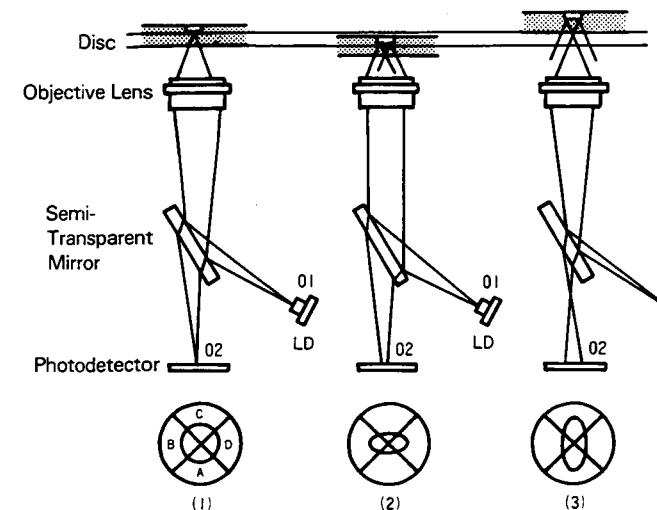
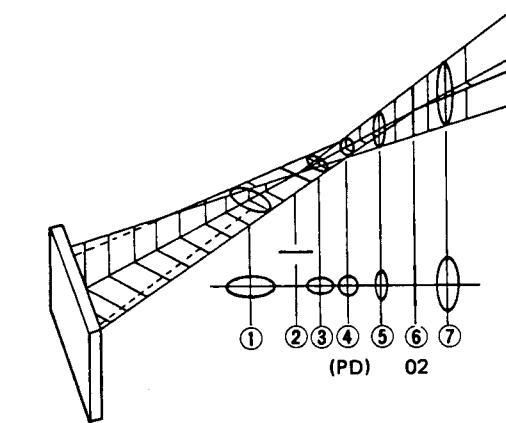
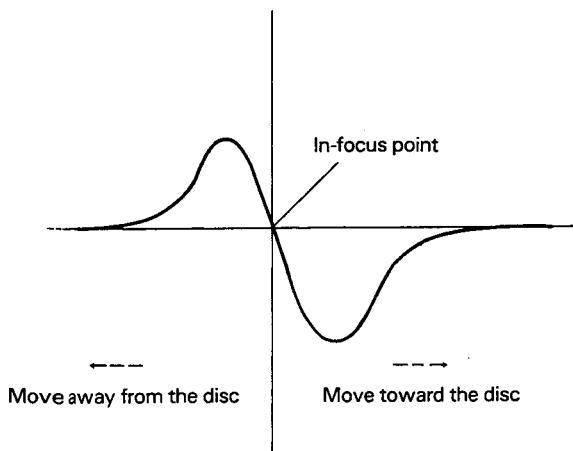

Fig. 12-3 Beam Focus on the Disc Surface
Fig. 12-4 Semi-Transparent Mirror
Fig. 12-5 The S-Shaped Curve
Fig. 12-3 shows how focus detection works. In (1), the light reflecting back through the objective lens forms a circle which touches all four photodetectors (labeled A through D) equally and signifies that the disc is in focus. The reflected pattern on the photodetectors forms an oval on the four photodetectors when there is a focus error. In (2), the disc is too close to the lens and in (3), the disc is too far. (The diffraction grating has been omitted from the figure for simplicity sake since it is not directly related to the focus signal and correction process.)
Fig. 12-4 displays the optical characteristics of the semi-transparent mirror. The lens affects only the vertical direction of the figures and not the lateral direction.
① through ⑦ in Fig. 12-4 show the beam shapes at varying distances from the semi-transparent mirror. Between the straight lines ② and ⑥ is the perfect circle ④. ⑥ corresponds to point (2) in Fig. 12-3. In order to make Fig. 12-4 coincide with Fig. 12-3 (1) to yield a circular beam shape, the photodetector must be set at ④. The beam shape in Fig. 12-3 (2) corresponds to a photodetector position in 12-4 that is relatively closer to the semi-transparent mirror, at about ③, with a horizontally elongated oval shape.
gated oval shaped beam. Conversely, Fig. 12-3 (3) corresponds to a photodetector position at around ⑤ with a vertically elongated oval.
The possible beam shapes that hit the photodetector are shown in Fig. 12-3. The focus signal is derived by simple arithmetic based on the signals from the four photodetectors:  $(A + C) - (B + D)$ .
When the objective lens is too near or far from the disc track surface most of the light does not reflect back to the photodetector. When the light that reflects back to the photodetector hits each of the four photodetectors uniformly, the focus signal is 0. When the objective lens moves too far from the disc surface it reflects a vertically elongated oval beam pattern like that of ⑦ in Fig. 12-4 on the photodetectors. In terms of the arithmetic for the focus signal,  $(A + C) > (B + D)$  and the focus signal is a plus figure. As the lens moves closer to the disc to correct focus, the beam shape reaches its peak (a vertical line) at ⑥ and the lens continues to move away from the disc surface until  $(A + C) - (B + D) = 0$  and the beam reflects a perfect circle on the photodetectors. Conversely, when the objective lens is too close to disc surface, a horizontally elongated oval beam will fall on the photodetector. In terms of the focus signal  $(A + C) < (B + D)$  is a minus figure. As the objective lens moves away from the disc, it passes the horizontal line peak at ② and continues until the focus signal is 0. Fig. 12-5 graphs the typical S-shaped curve derived from the  $(A + C) - (B + D)$  focus signal.